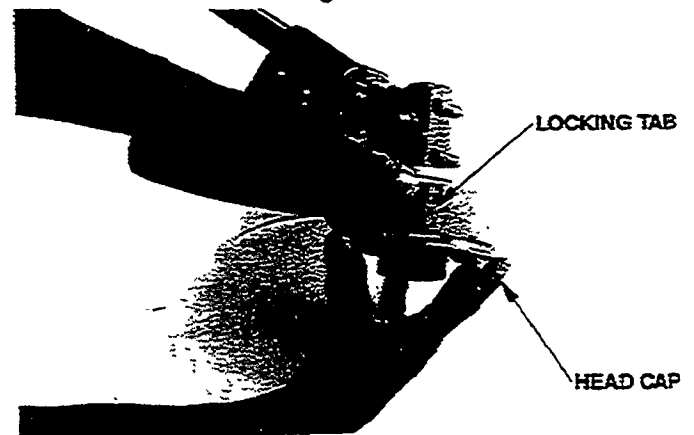

Figure 17
- Push in one of the locking tabs, releasing it from its notch (Figure 17, page 7) and pull on the rotary head cap.